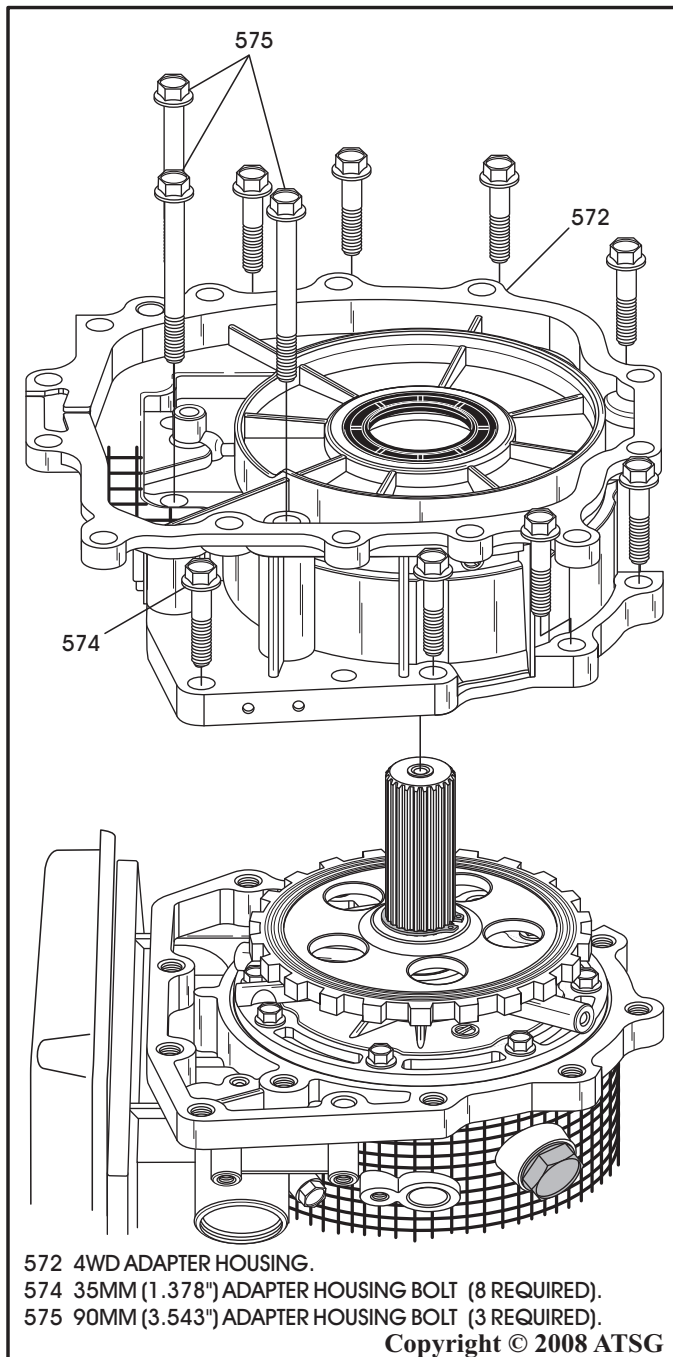

Figure 231
2. Install 4WD adapter housing on transmission, as shown in Figure 231.